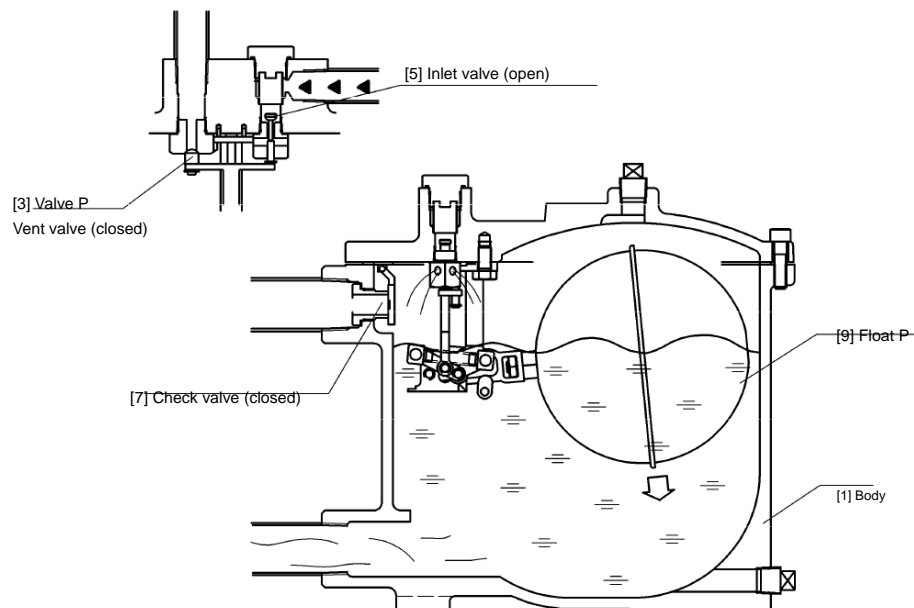

Fig. 4: State 2
When the condensate level rises and float (P) [9] reaches a certain height, inlet valve [5] is opened by valve (P) [3], and then vent valve of valve (P) [3] closes. The driving pressure enters body [1] following opening of inlet valve [5], closing check valve [7] and stopping the condensate flowing in. Condensate inside the body is transferred to the outlet side and discharged. When condensate is discharged, float (P) [9] moves downward in line with water level in the body. When it drops to a certain height, inlet valve [5] is closed and vent valve of valve (P) [3] opens. Internal pressure is released by vent valve, returning to state 1. (See Fig. 4.)